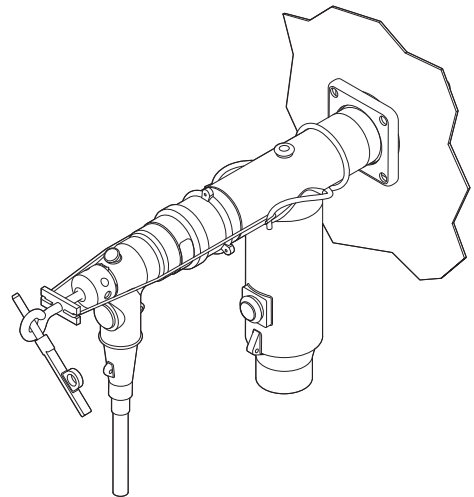

Figure 7. Locking pin inserted through eyebolt of CLEERBAIL to tighten
- Insert the provided locking pin into the eye of CLEERBAIL's eyebolt, and tighten. (Refer to **Figure 7**).